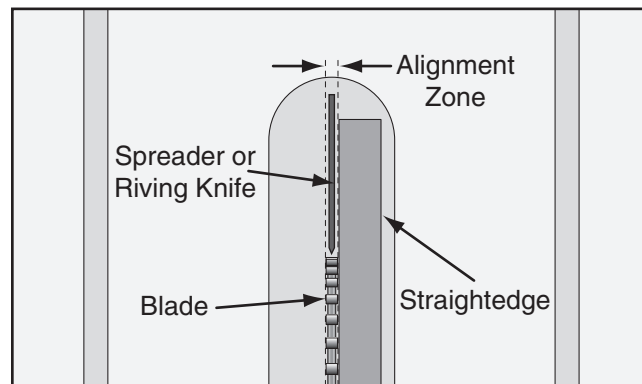

Figure 118. Spreader/riving knife alignment zone.
5. Spreader/riving knife should be parallel with blade along its length at both positions and should be in "Alignment Zone," as shown in **Figure 118**.